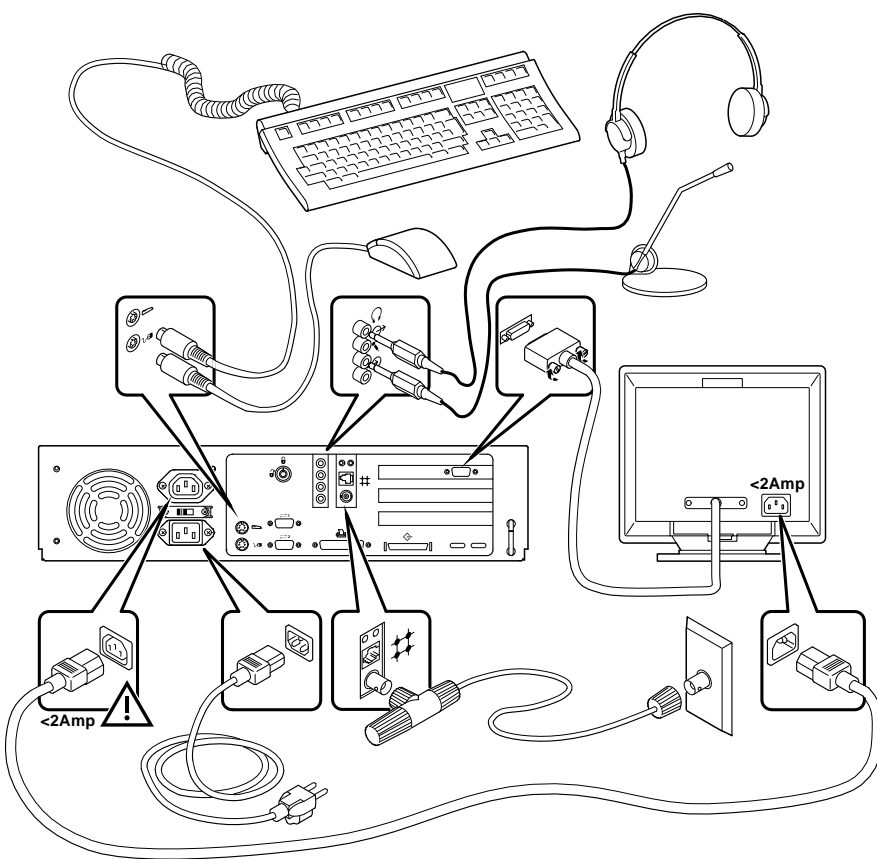

Figure 1-5. Connecting Cables and Power Cords
3. Connect the mouse, keyboard, video cable, and power cords to the system components, as Figure 1-5 shows.